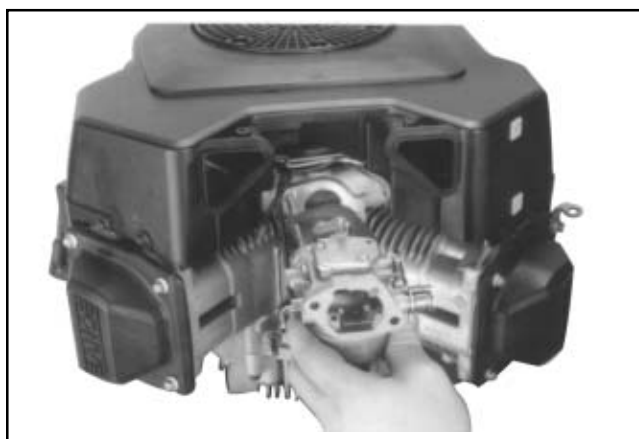

Figure 11-67. Installing Carburetor, Throttle Linkage, and Governor Lever.
2. Install the carburetor, throttle linkage and governor lever as an assembly. See Figure 11-67. If a plastic intake manifold is used and the carburetor is equipped with a fuel solenoid, attach the ground lead. See Figure 11-67.